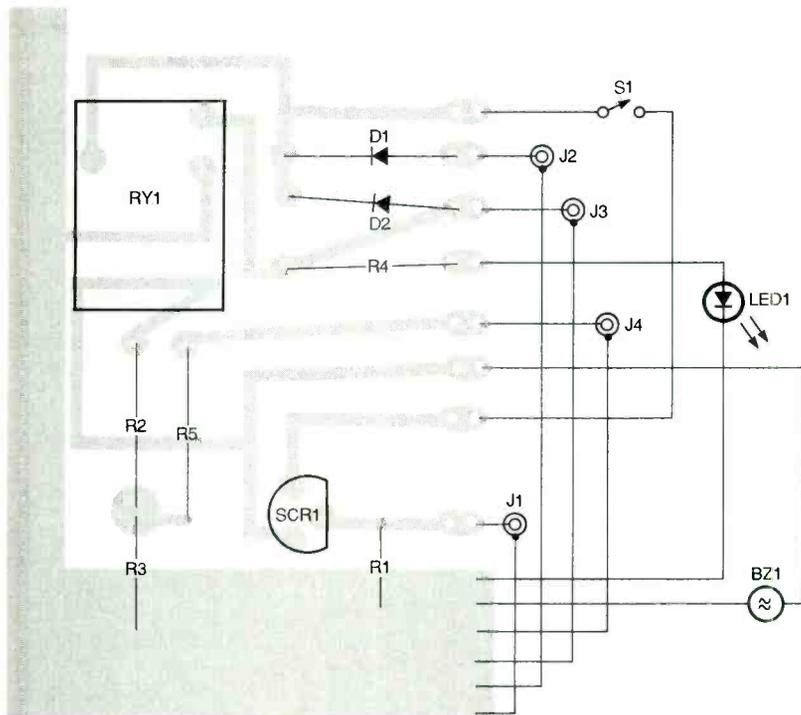

Fig. 3. If you want to etch a PC board from the foil pattern, use this placement diagram to locate the parts.
**Electronics Assembly.** The Freezer Sentry circuit can be built using either a printed-circuit board or hand-wired on a perfboard. A PC board is not absolutely necessary, as the component placement is not critical. If you wish to build your own PC board, you may use the foil pattern published here and follow the parts-placement diagram in Fig. 3. It is a good idea to use different connector hardware for each connection to the circuit in order to avoid errors when plugging in the sensor and other connections. The connector combinations in the Parts List are by no means definitive—they just represent the choices made for the prototype.